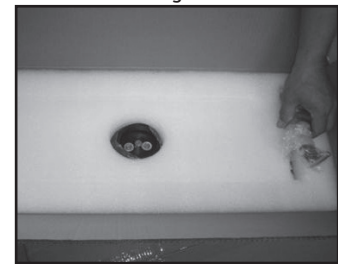

Fig 2
2. Remove the tool kit and foam sheets as shown in Fig. 2.